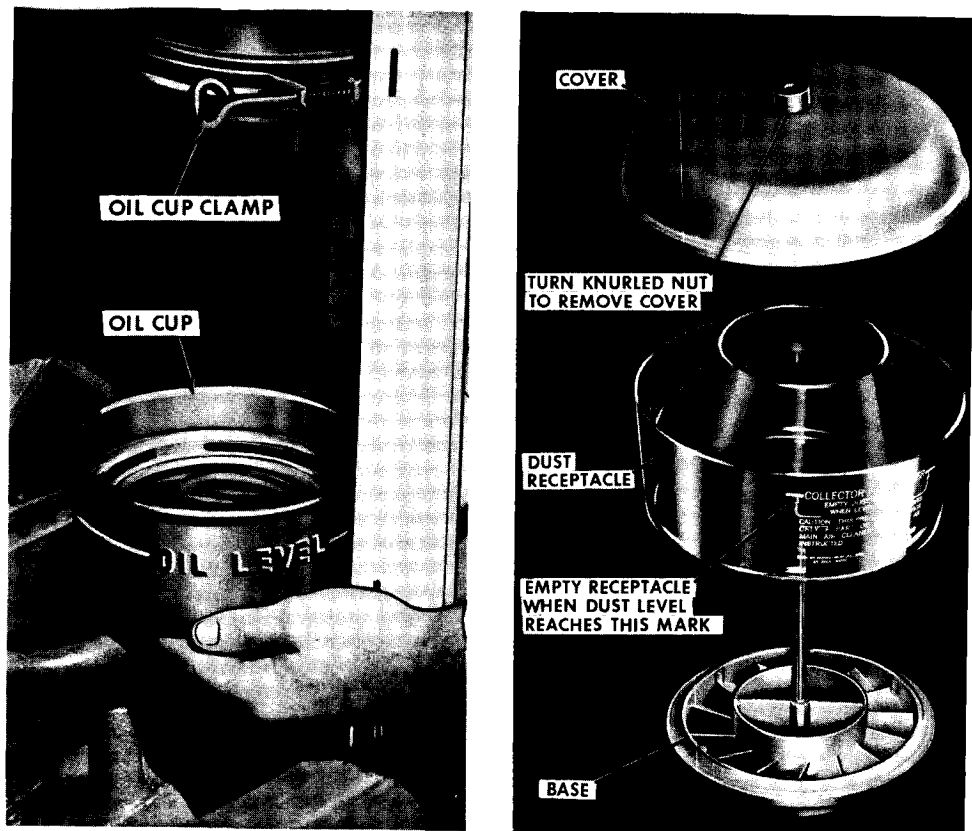

Figure 14
2. Loosen the oil cup retainer clamp so oil cup can be lowered and removed from air cleaner, Figure 14.